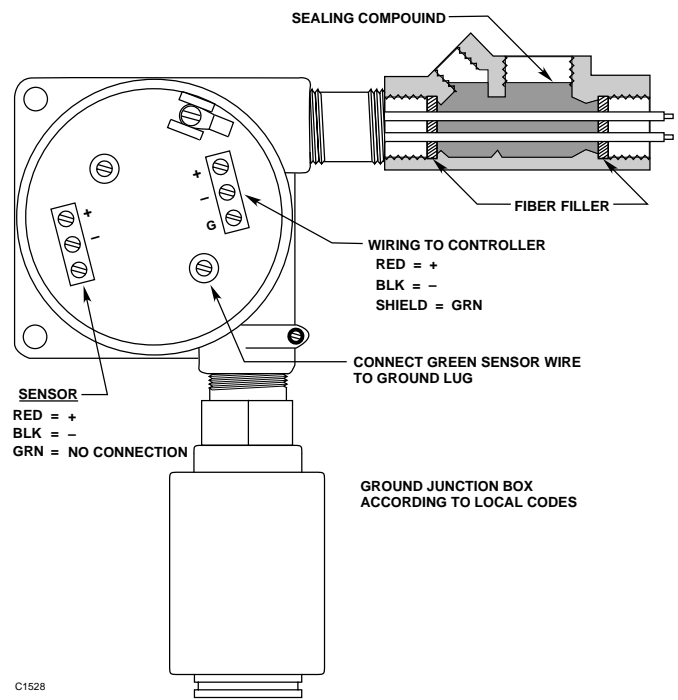
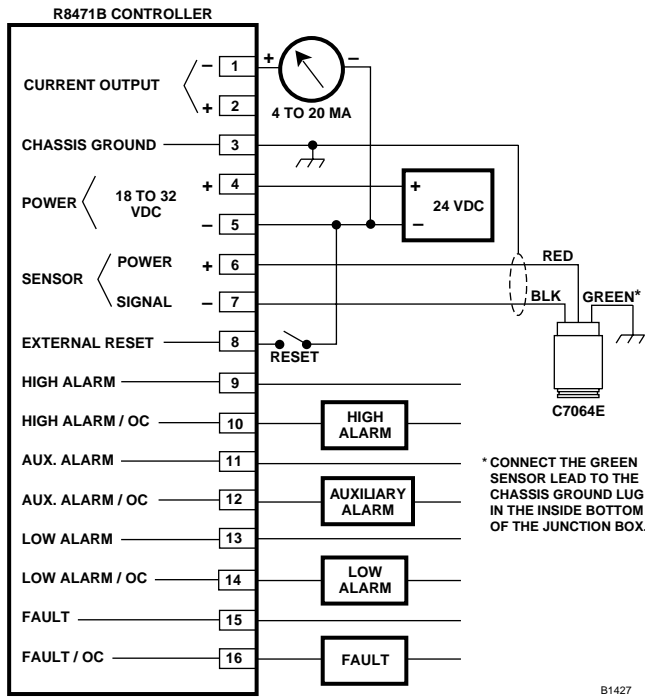
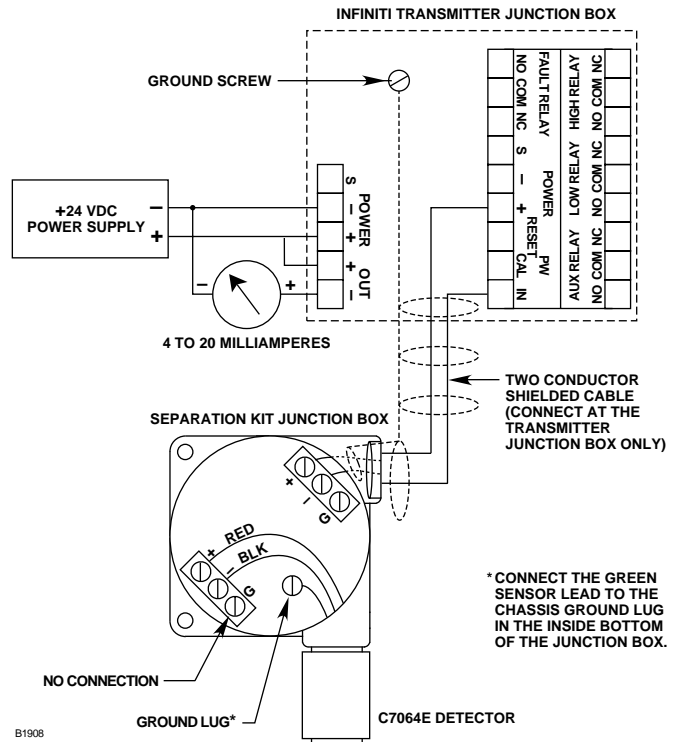
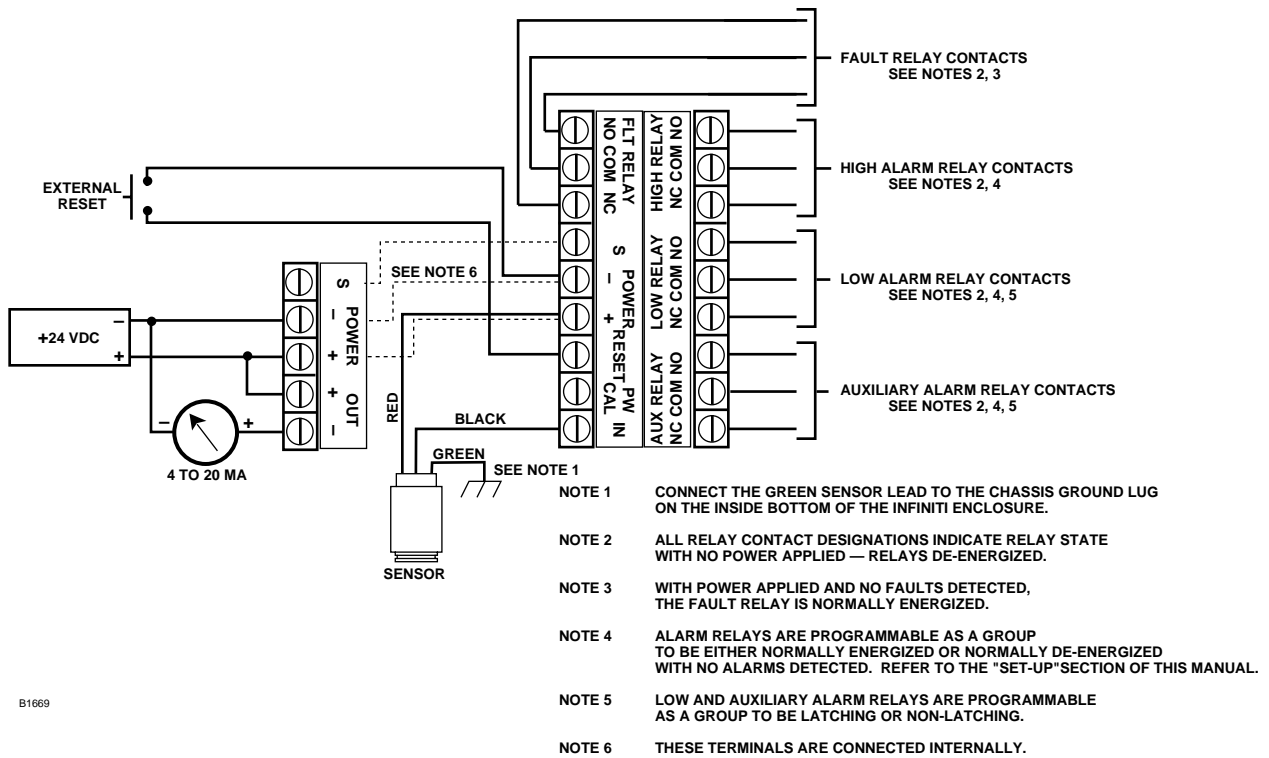

Figure 2—A Typical C7064E Stand-Alone Detector
Figure 3—C7064E Detector Wired to an R8471B Controller
Figure 5—C7064E Detector Wired to a U9500 Infiniti Transmitter Using a Separation Kit Junction Box
Figure 4—C7064E Detector Directly Wired to a U9500 Infiniti Transmitter
3. Install the C7064 detector within the proper opening in the junction box. Terminate all three (3) C7064 conductors at the proper terminals. Refer to the appropriate illustration for details. Figure 2 shows a typical C7064E stand-alone detector. Figure 3 shows a C7064E wired to an R8471B Controller. Figure 4 shows a C7064E directly wired to a U9500 Infiniti Transmitter. Figure 5 shows a C7064E wired to a U9500 Infiniti Transmitter using a sensor separation kit.